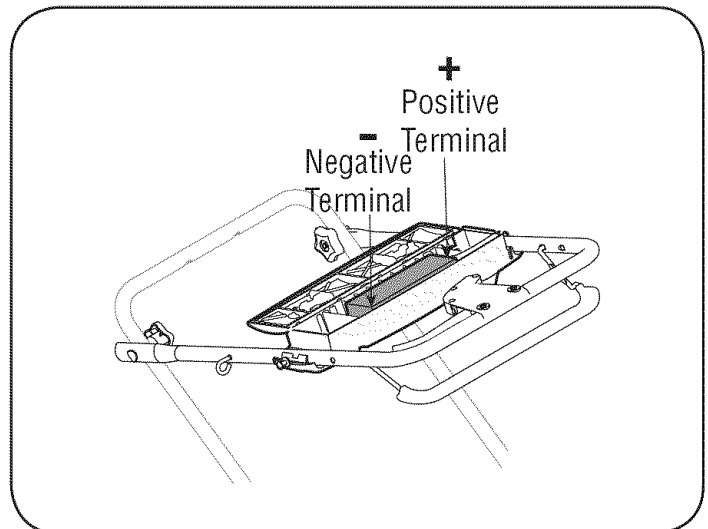

Figure 21
**NOTE:** The battery you have may differ slightly from the one shown in Figure 21. Refer to the Parts List.
**IMPORTANT:** When replacing battery pack in handle panel, battery pack must be positioned with the positive terminal to the left side and the negative terminal to the right side of panel (Positive terminal is closest to the key switch). See Figure 21. Replacing battery pack incorrectly will cause serious damage.